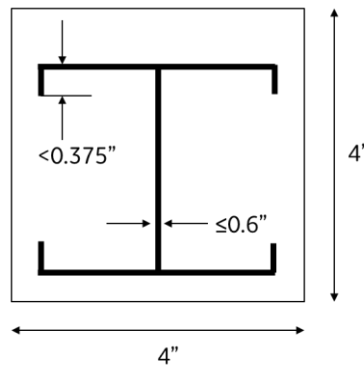

Figure 1. I-Beam Maximum Dimensions
3.2. Criteria for I-Beam Bridges. I-Beam bridges shall have a single web with a thickness less than or equal to 0.6 inches. The caps shall have a maximum thickness of 0.375 inches and they do not have to be equal in length, width and thickness. The radius of the web-to-cap fillet shall be not greater than 0.5 inches. The cross section is permitted to vary along the length of the bridge and does not have to follow the centerline if the required dimensions are maintained. The maximum dimensions for I-Beams are shown in Figure 1.